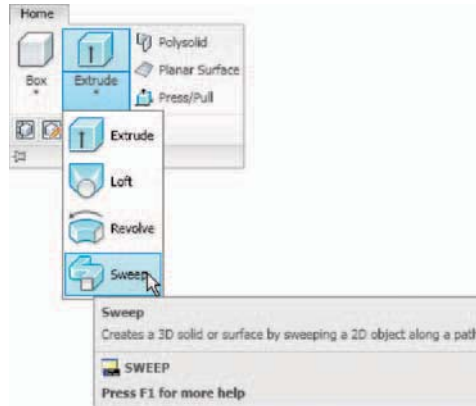

Fig. 12.37 Selecting the **Sweep** tool from the **Home/Modeling** panel
To call the **Sweep** tool, *click* on its tool icon in the **Home/Modeling** panel (Fig. 12.37).
3. Place the window in a **ViewCube/Isometric** view and *click* the **Sweep** tool icon (Fig. 12.37). The command line shows: